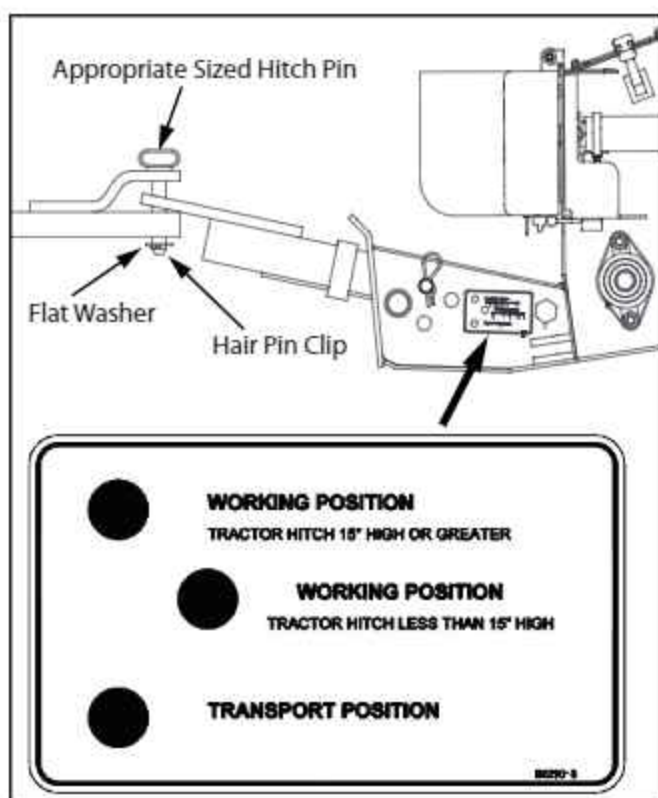

FIG. 4-3. Conveyor Hitch Positioning
1. Attach the conveyor to the tractor using a 1 1/4" dia. draw pin. Make sure the clevis strap is installed on the draw bar. See Fig. 4-3.